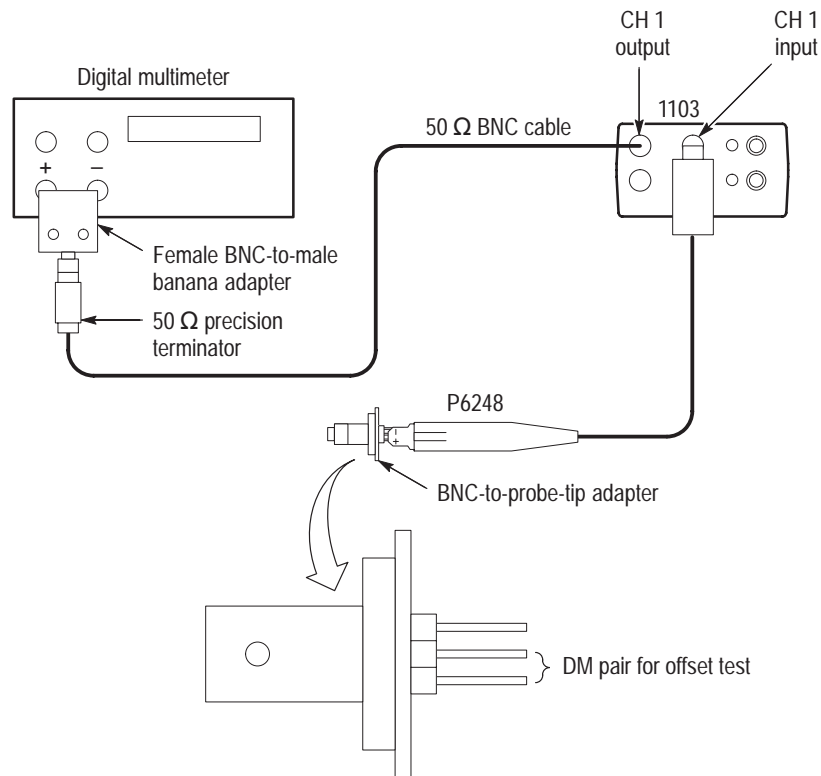

Figure 10: Setup for the offset adjustment
1. Connect the probe as shown in Figure 10.